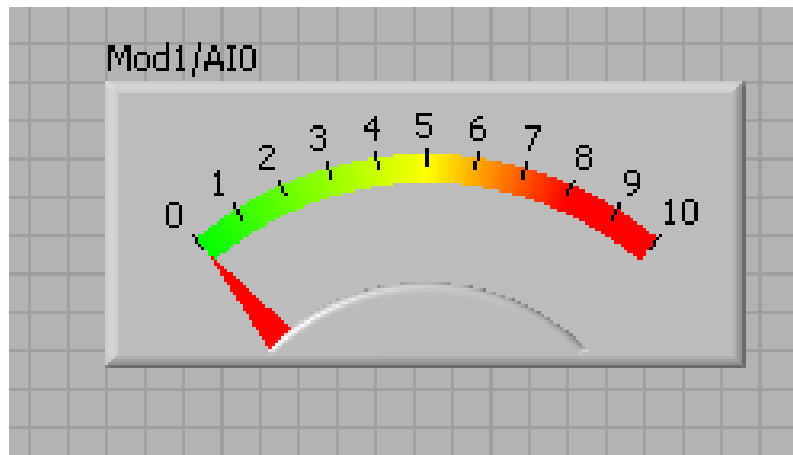

Figure A13 - Meter in Front Panel
5. From the Front Panel right click - indicator → numeric → meter. Change numbers from 0 to 10. Your front panel should look like Figure A13.